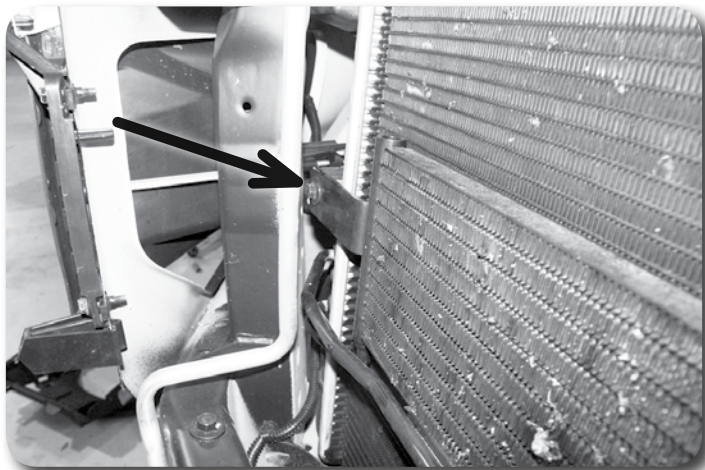

Figure 4
12. Remove the oil cooler retaining bolt **Figure 4**. Remove the cooler lines from the retaining clips on the passenger's side of the radiator. Pull the cooler free from the radiator and allow it to hang out of the way. Save bolt.